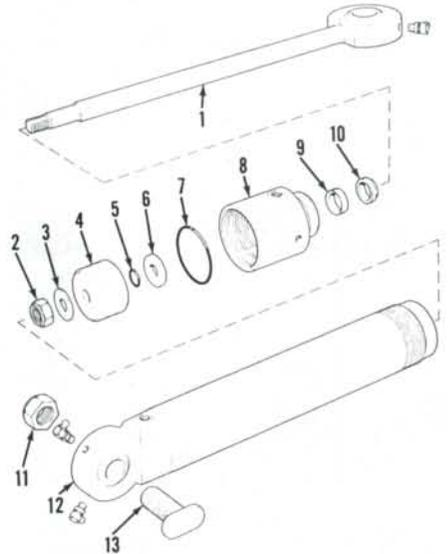

Fig. 67—Exploded view of steering cylinder used on 1490 models, some 1690 models and early 1394, 1494 and 1594 models equipped with Carraro front drive axle.
73. OVERHAUL. Clear cylinder of oil as necessary by moving piston rod through its complete stroke. Unscrew end cap (8—Fig. 67) and pull piston rod (1) and piston (4) out of cylinder body (12). Remove retaining nut (2), washer (3), piston assembly (4), "O" ring (5) and washer (6). Slide end cap (8) off of piston rod (1), then remove "O" ring (7) and seals (9 and 10).